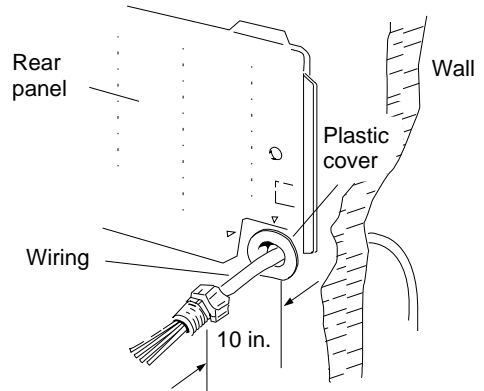

Fig. 19
- (1) Insert the inter-unit wiring (according to local codes) into the through-the-wall PVC pipe. Run the wiring toward the indoor side allowing approx. 10 inch to extend from the wall face. (Fig. 19)